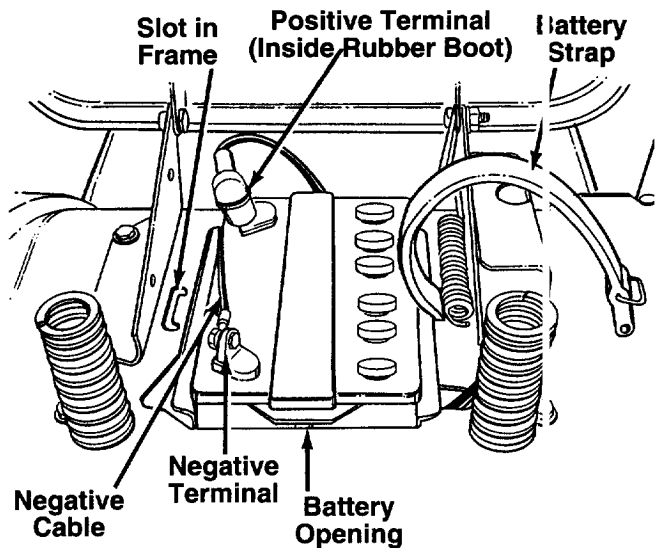

FIGURE 4.
2. Make certain both the negative (black) cable and the positive (red) cable are routed up through the battery opening as shown in figure 4.